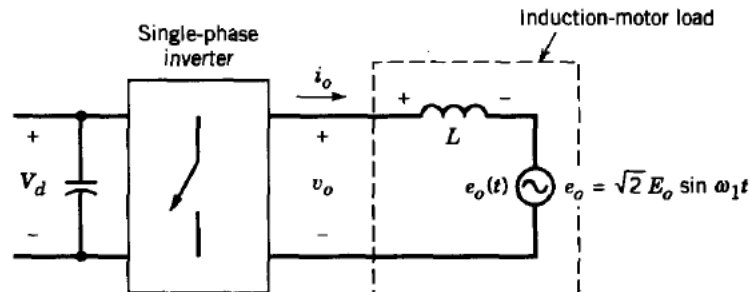

FIGURE 3
6.2 Figure 3 gives a single-phase full bridge inverter, operating in a square-wave mode. The dc-voltage is 444V and the output voltage frequency supplying the motor is 57 Hz. Inductance $L = 200$ mH. Solve for the peak value of the ripple current in the output. (10)